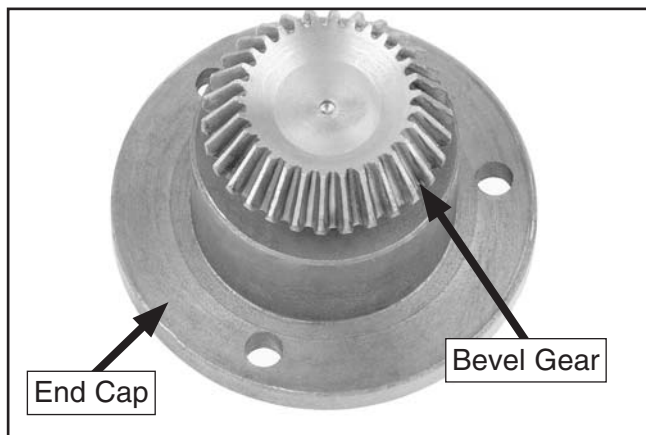

Figure 94. Mill elevation crank bevel gear.
4. Clean away built-up grime and debris from the bevel gears and the internal cavity, then brush on a coat of NLGI #2 grease to the teeth of the bevel gears (see **Figures 94–95**).